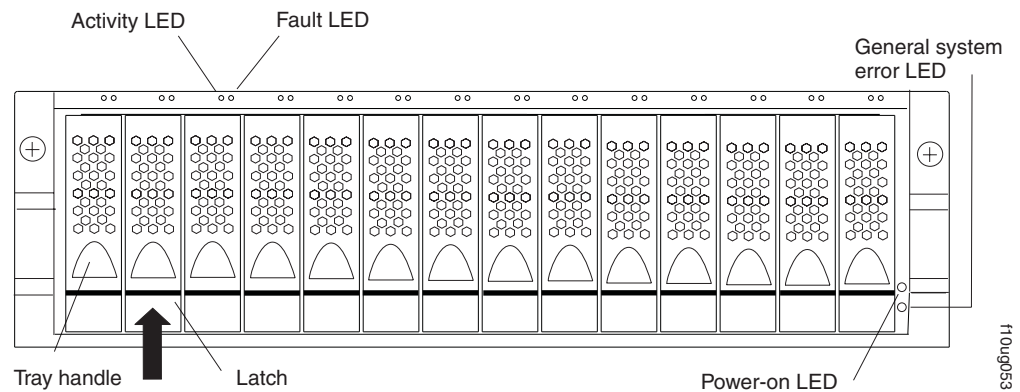

Figure 62. Hot-swap hard disk drive LEDs
2. Check for Fault LEDs shown in Figure 62. If any amber LEDs are lit, see Chapter 6, "Hardware maintenance," on page 111.
- a. Release the latch on the drive CRU by pinching together the blue line on the tray latch and the finger hole on the tray handle, as shown by the arrow in Figure 62.